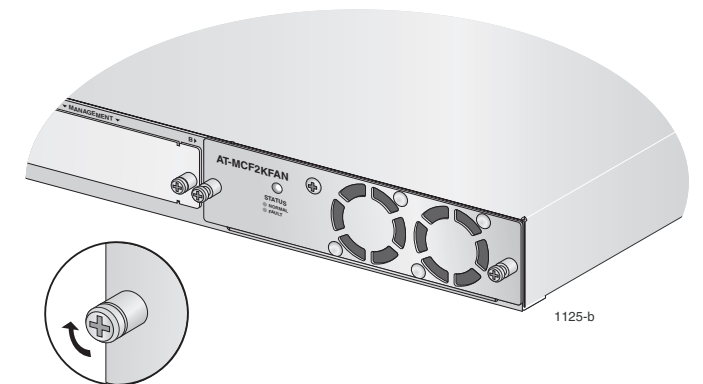

Figure 4. Securing the AT-MCF2KFAN Fan Module
4. Secure the fan module to the chassis by tightening the two captive screws using a cross-head screwdriver. Refer to Figure 4.